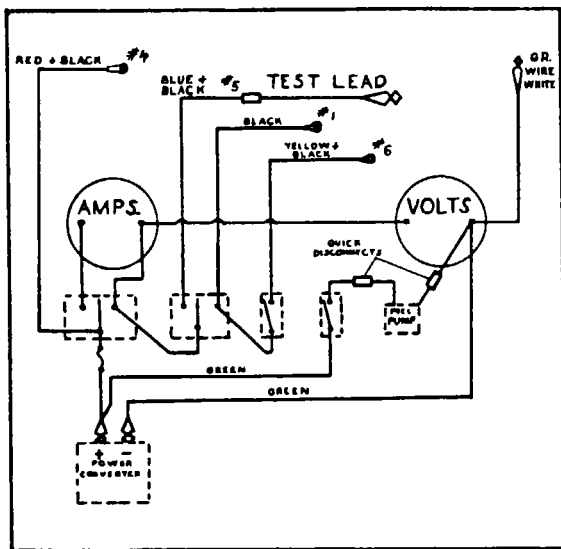

Figure 13-19. Test Stand Electrical Circuit
- b. Connect the twelve-inch test lead provided (Refer to Figure 13-19.) to the test stand black-with-blue-tracer lead with one single quick disconnect.